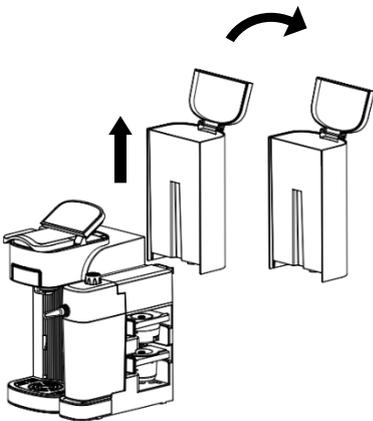

Figure 1
1. Remove the water tank from the main unit, open the water tank cover, and fill the water tank with clean, cool water to the maximum fill line as indicated on the water tank (see Figure 1).